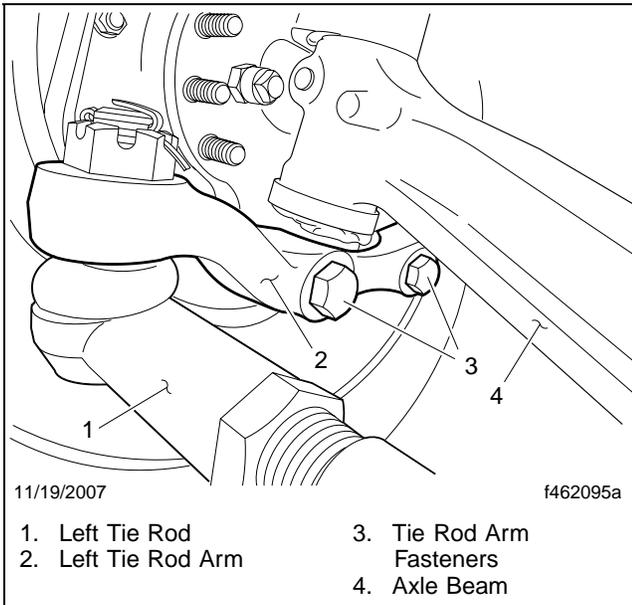
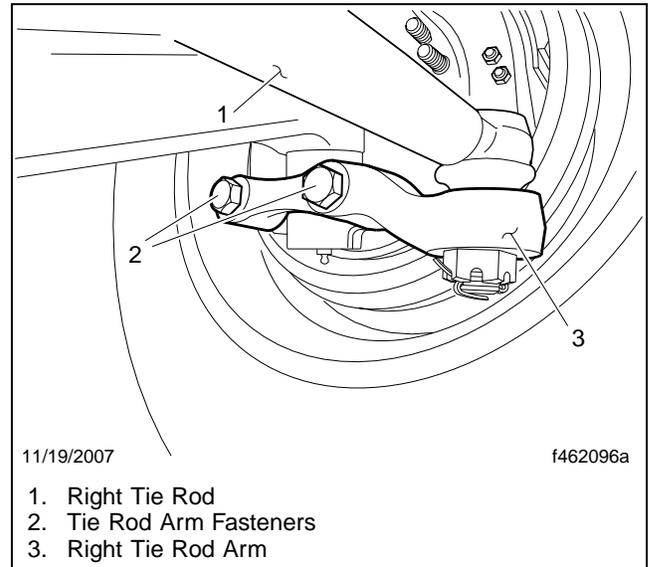

Fig. 1, Left Side of Vehicle
Fig. 2, Right Side of Vehicle
- 5.1 Remove and discard the fasteners that hold the tie rod arms to the steering knuckles. See **Fig. 1** and **Fig. 2**.